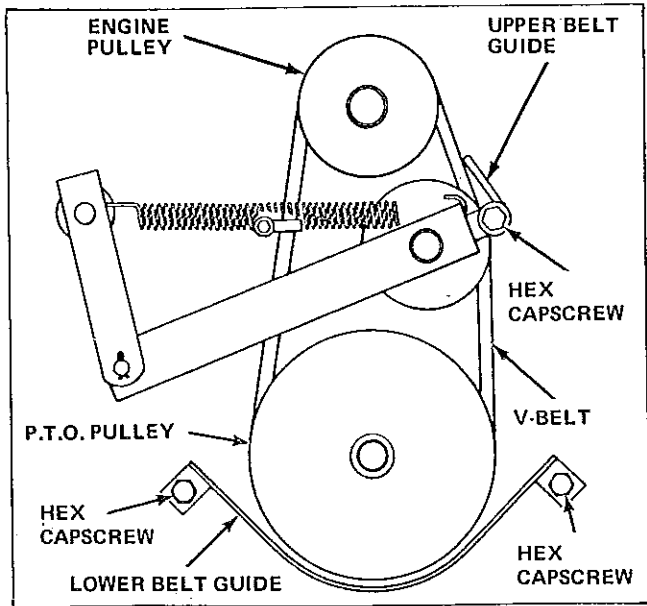

Figure 36
3. With the P.T.O. lever in the ON position, loosen the hex capscrew which secures the upper belt guide shown in Figure 36. Adjust upper belt guide for 1/8 to 1/4 inch clearance between belt and belt guide. Tighten hex capscrew securely.